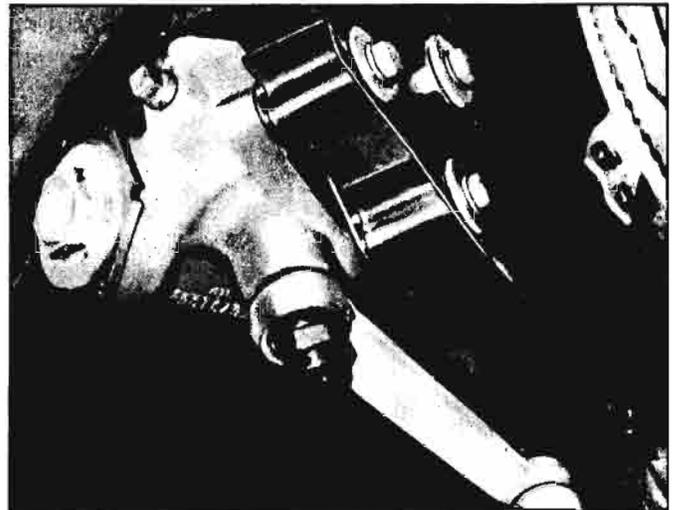

Fig. 4-10—Steering Gear Attachment
2. Remove the three bolts and washers attaching the steering gear to the frame side member. See Figure 4-10.